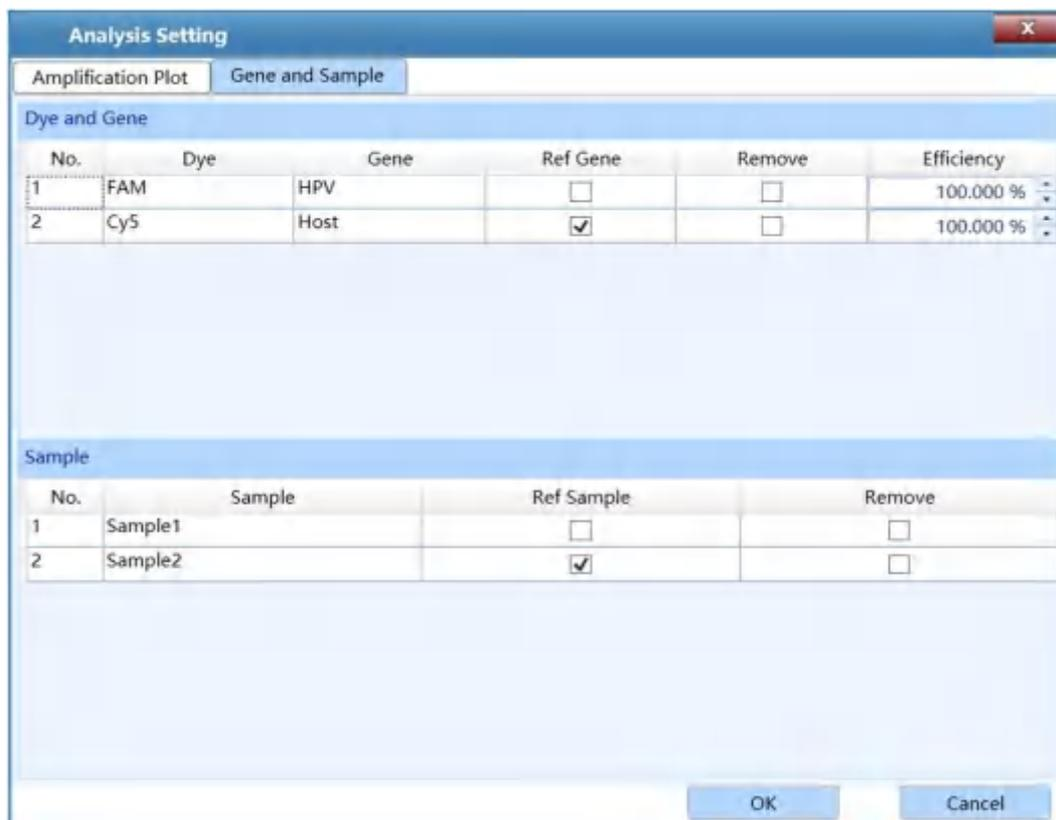

Figure D-11. Rel Quant Analysis Setting interface - Gene and Sample tab
- II. **Gene and Sample** tab: user can set the dye, gene, sample and reference required for the analysis of the current experiment within the gene and sample tab, as shown in figure D-11.